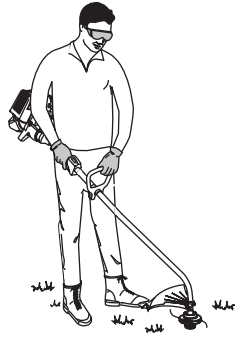

Fig. 11
3. Hold the unit in the operating position. If necessary, reposition the D-handle to the location that provides the best grip (Fig. 11).
Before operating the unit, stand in the operating position (Fig. 11). Check for the following: